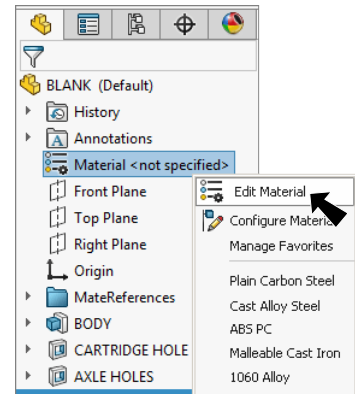

Fig. 27
Step 1. Right click **Material** in the Feature Manager and click **Edit Material**, Fig. 27.